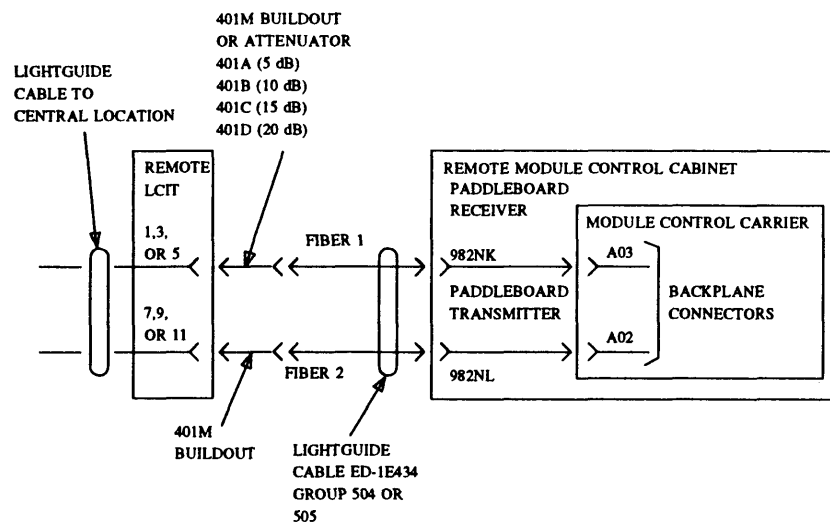

Figure 26-28. Remote TMS Fiber-Link Connections for Unduplicated MC Phases 1, 2, and 3 — Traditional Module at Remote Site)
Install all the TMS fiber link(s) for the remote location from the TMS carrier(s) to the remote LCIT as shown in figures 26-28 and 26-29 for an
5. Connect the fiber-optic cables to the appropriate attenuator as shown in figures 26-28 and 26-29.